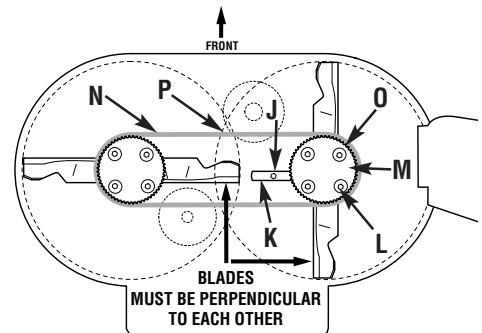

Figure 5-6: Blade Spindle Belt.
3. Align sight holes (O, Figure 5-6) in pulley with spindle housing-to-mower deck mounting bolts (L).
4. Loosen screw (J) and rotate arm (K) to the rear.
5. Loosen four mounting bolts (L) securing spindle housing (beneath mower deck) to mower deck.
7. Replace belt (N) with new belt.